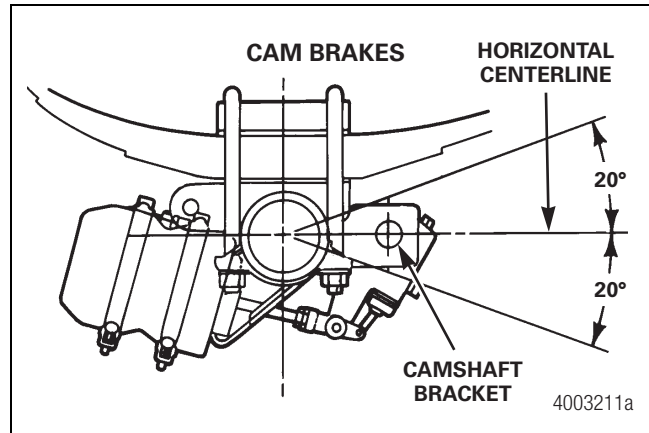

Figure 6.9
- **Cam brakes:** The centerline of the camshaft bracket must be located within 20 degrees of the axle horizontal centerline. Figure 6.9.